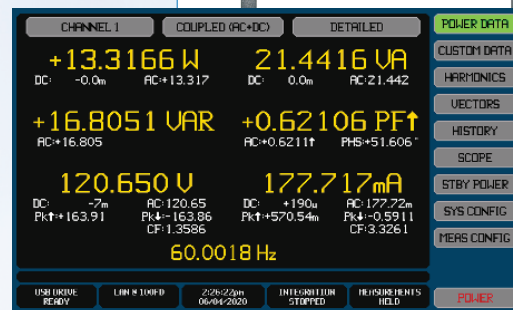

Figure 2. Vitrek PA920 Power Analyzer - The analyzer’s power data screen shows necessary lighting parameters.
The power analyzer’s power data screen (Figure 2) makes it easy for the user to check to see if LED applications meet all required specifications by showing the following parameters: voltage, current (ripple), power, apparent power (VA), reactive power (VAR), power factor (PF), frequency and efficiency.